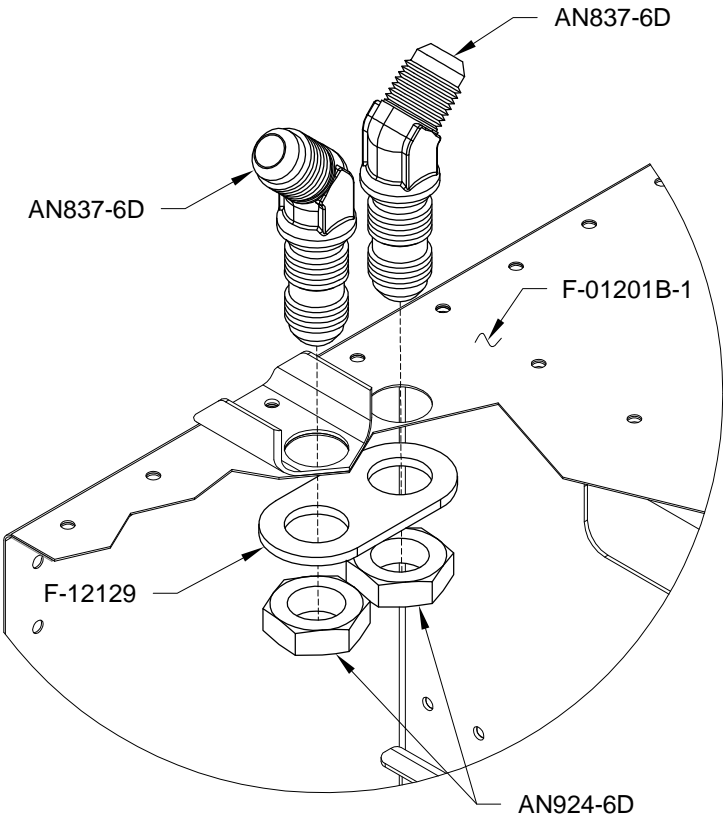

FIGURE 3: INSTALLING THE FIREWALL FLUID FITTINGS
Step 3: Install the fluid fittings, F-12129, and hardware onto the F-01201B-1 as shown in Figure 3. Apply sealant between the AN837 Union Bulkhead Fittings and the Firewall.